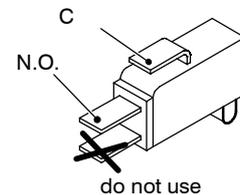

Fig. 3
- 2 Measure the electrical resistance between the tabs marked C. and N.O. (Fig. 3). The contact must be normally open.
- 4 Re-assemble the parts in reverse order of removal. Refer to Fig. 3 for the correct wiring connectors on the switch